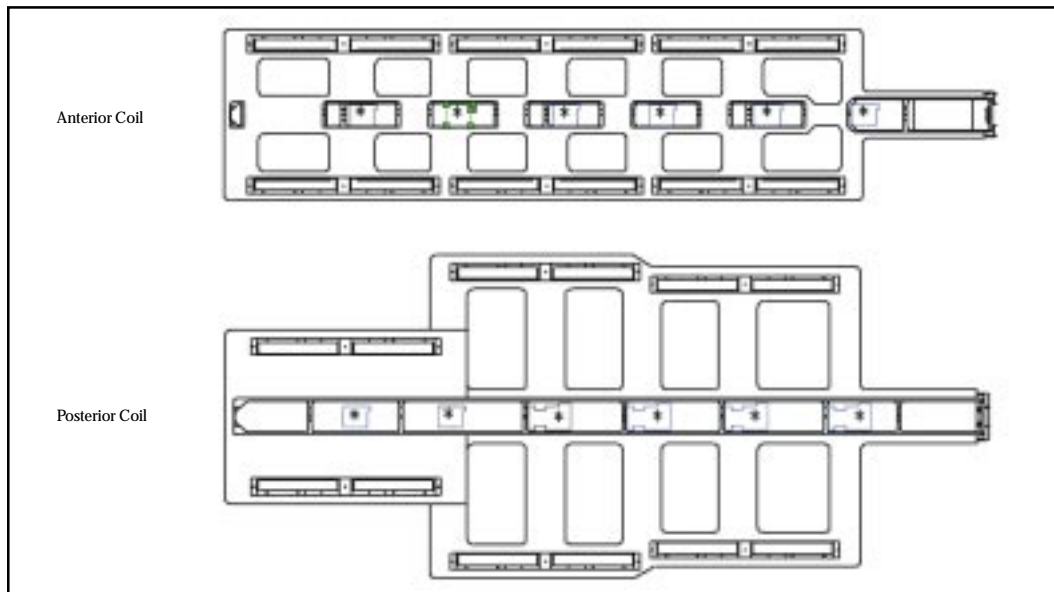
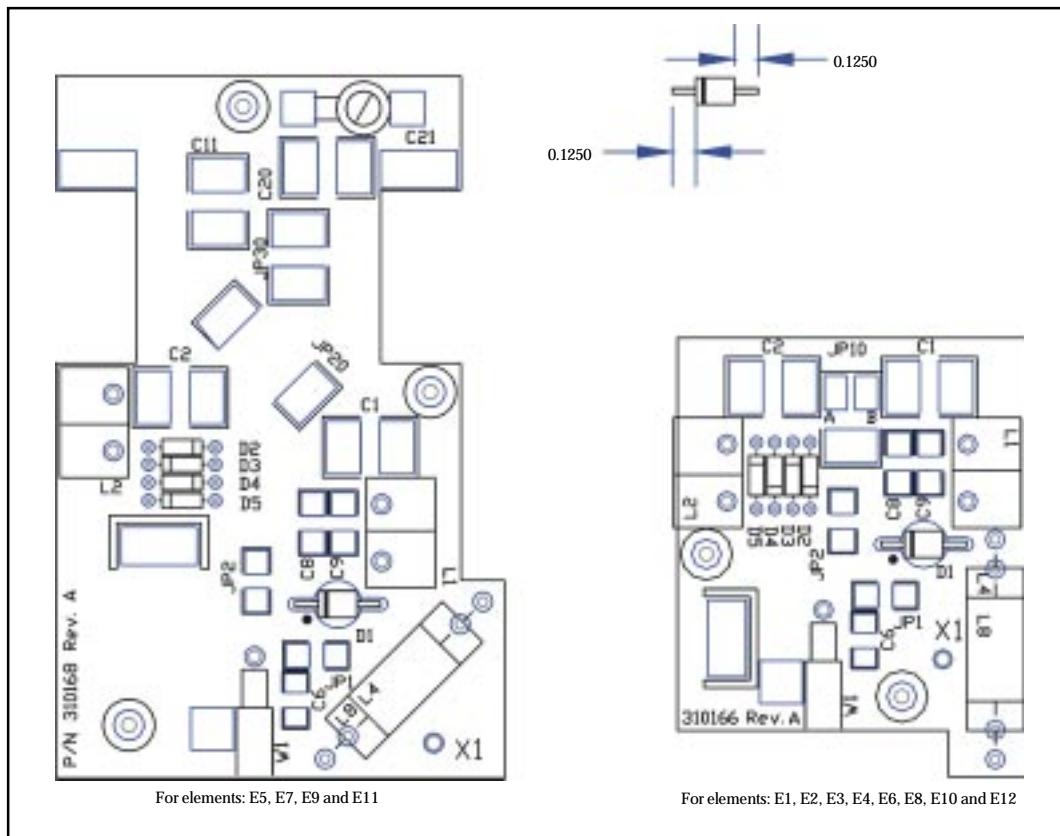

Figure 20: Pin diode placement for both the anterior and posterior coils (* represents pin diode location).
Figure 21: Diode mounting.
- Check the pin diodes located on the feed boards of the individual coil elements with a DVM. Every coil element has one diode (*see Figure 20 for the location of the diodes*). If a diode is found to be either open or shorted: (1) take note of the diode's cathode-anode orientation; (2) carefully de-solder the surface mounted diodes from the feed board; (3) cut the leads of a new diode to 1/8"; (4) place the new diode into the hole on the PCB. Align the leads of the diode with the surface mount pads. The cathode pad is designated with a dot near the pad (*see Figure 21 for diode mounting*).